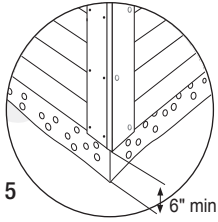

Figure 5
- When installing James Hardie products all clearance details in figs. 5, 6, 7, 8, & 9 must be followed.